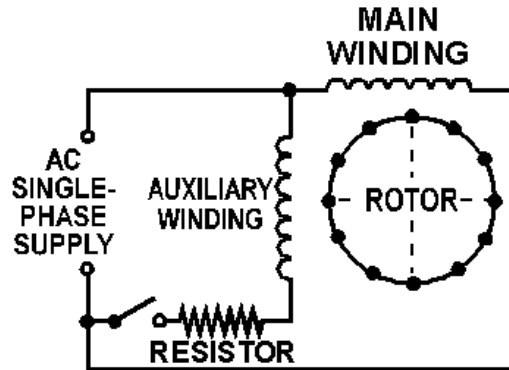

Figure 4-12.—Resistance-start ac induction motor.
**RESISTANCE-START.**—Another type of split-phase induction motor is the resistance-start motor. This motor also has a starting winding (shown in fig. 4-12) in addition to the main winding. It is switched in and out of the circuit just as it was in the capacitor-start motor. The starting winding is positioned at right angles to the main winding. The electrical phase shift between the currents in the two windings is obtained by making the impedance of the windings unequal. The main winding has a high inductance and a low resistance. The current, therefore, lags the voltage by a large angle. The starting winding is designed to have a fairly low inductance and a high resistance. Here the current lags the voltage by a smaller angle. For example, suppose the current in the main winding lags the voltage by  $70^\circ$ . The current in the auxiliary winding lags the voltage by  $40^\circ$ . The currents are, therefore, out of phase by  $30^\circ$ . The magnetic fields are out of phase by the same amount. Although the ideal angular phase difference is  $90^\circ$  for maximum starting torque, the  $30^\circ$ -degree phase difference still generates a rotating field. This supplies enough torque to start the motor. When the motor comes up to speed, a speed-controlled switch disconnects the starting winding from the line, and the motor continues to run as an induction motor. The starting torque is not as great as it is in the capacitor-start.